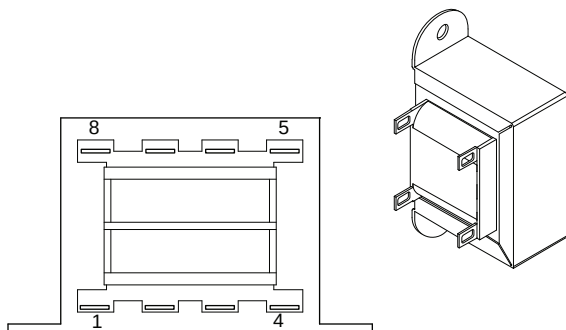

Figure 24. Transformer (TR1)
2. Connect one meter lead to Terminal 1 of TR1 and the other meter test lead to Terminal 4 of TR1 (see Figure 24). Measure and record the voltage.